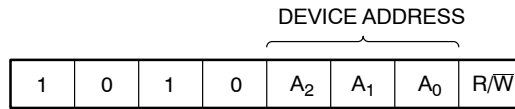

Figure 3. Slave Address Bits
The Master initiates data transfer by creating a START condition on the bus. The Master then broadcasts an 8-bit serial Slave address. The first 4 bits of the Slave address are set to 1010, for normal Read/Write operations (Figure 3). The next 3 bits, A2, A1 and A0, select one of 8 possible Slave devices and must match the state of the external address pins. The last bit, R/ $\bar{W}$ , specifies whether a Read (1) or Write (0) operation is to be performed.